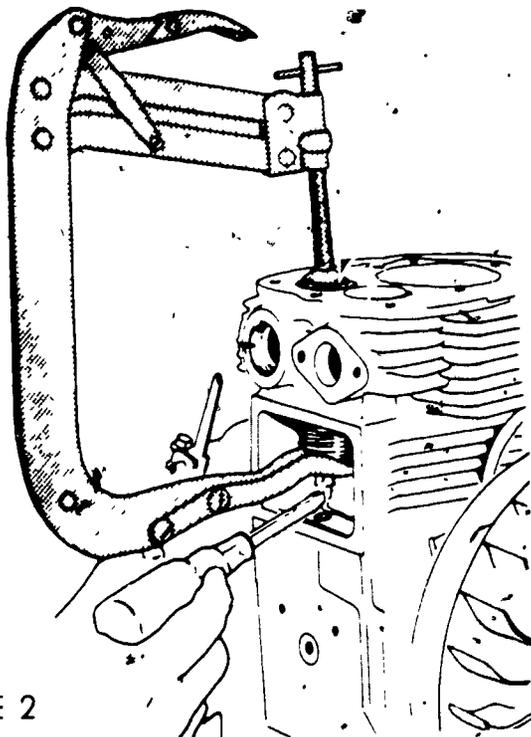

FIGURE 2
- Q. Install valve spring compressor (Figure 2)